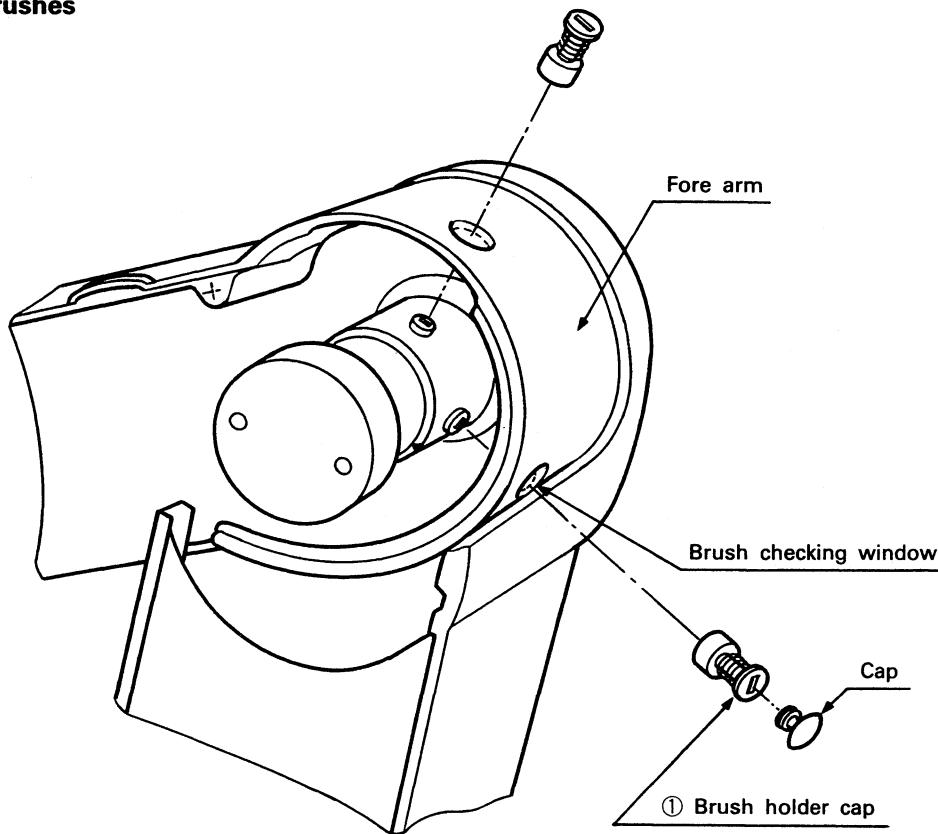

Fig. 4.3.6 Checking and Changing the Elbow Drive Motor Brushes
- (1) Fig. 4.3.6 outlines the inspection and replacement procedures of the elbow drive motor brushes.
- (2) Remove the elbow cover (R) in accordance with Section 3.2, Removal of Covers.
- (3) After removing the cap from the brush checking window in the fore arm, insert a flat-blade screwdriver into the window and remove the brush holder cap.
- (4) Check the brushes in accordance with steps (3) to (6), A. Inspection of Section 3.3.1, Inspection and replacement of the waist drive motor brushes.